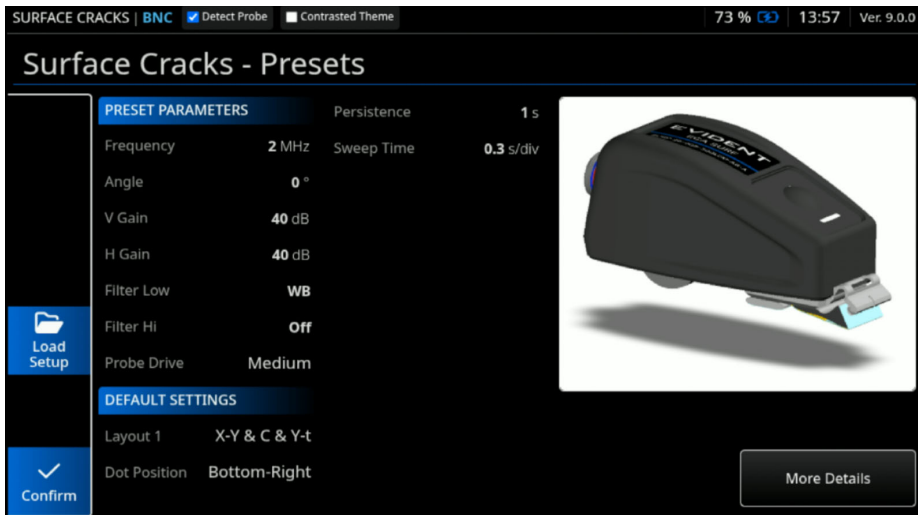

Figure 4-82 Surface Cracks Presets with ECA
2. Press **Confirm** to launch the SURF-026-008-300k03M-AB-A base use case (See Figure 4-82 on page 180).